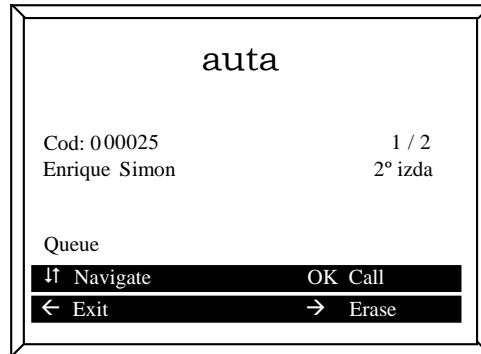

Figure 7. Example with 2 calls stored in the queue.
- The SB shows on screen data corresponding to the flat or switchboard which the call came from, in a similar manner as they are shown at the Directory. It also shows in the right side, the order the call has been stored and the whole of calls queued (see figure 7).